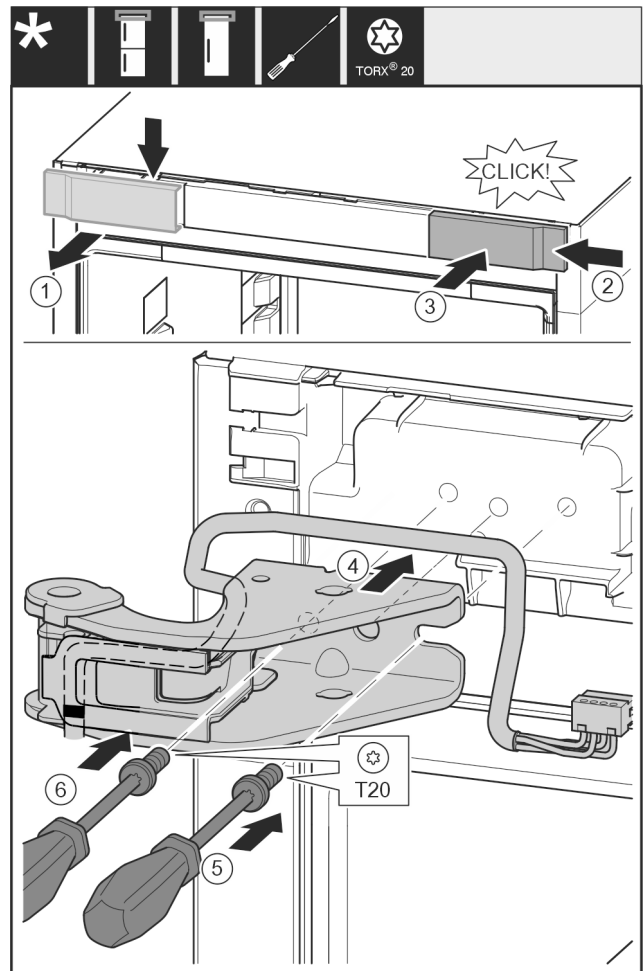

Fig. 30
- Take off the cover to the front from above. Fig. 30 (1)
- Rotate the cover 180° and clip onto the other side from the right. Fig. 30 (2)
- Latch the cover into place. Fig. 30 (3)
- Position the upper bearing bracket. Fig. 30 (4)
- Insert the screw with a T20 screwdriver and tighten it. Fig. 30 (5)
- Insert the screw with a T20 screwdriver and tighten it. Fig. 30 (6)